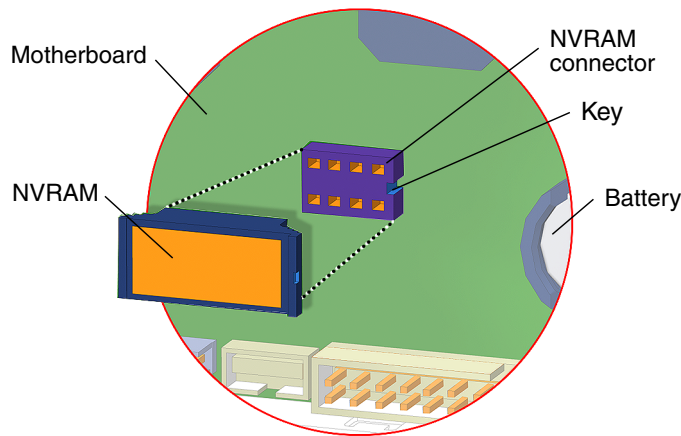

FIGURE 11-25 Removing NVRAM
3. **Remove NVRAM (FIGURE 11-25).**
2. Locate the NVRAM connector (FIGURE 11-25).